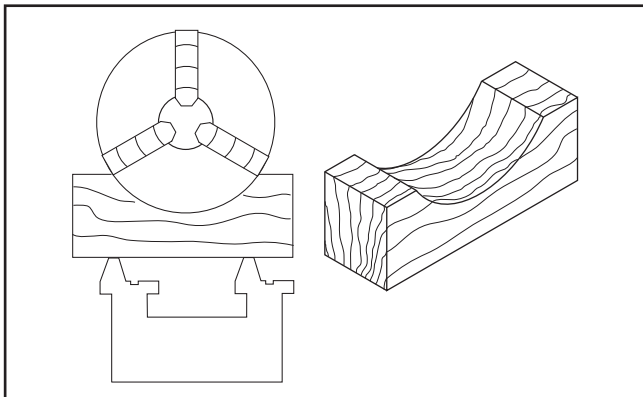

Figure 21. Simple chuck cradle made from scrap lumber.
2. Lay a chuck cradle (see **Figure 21**) or a layer of plywood over the bedways to reduce the risk of injury and to protect the precision ground surfaces of the bedways.